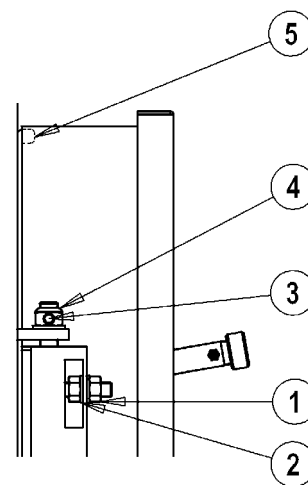

fig. 9
5.6.1 Para modelos PREXTHERM RSW 92N÷600N (Fig. 9)